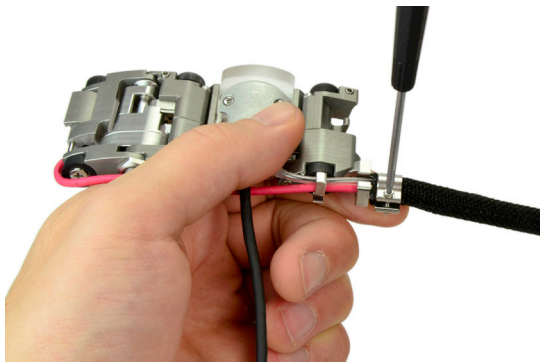
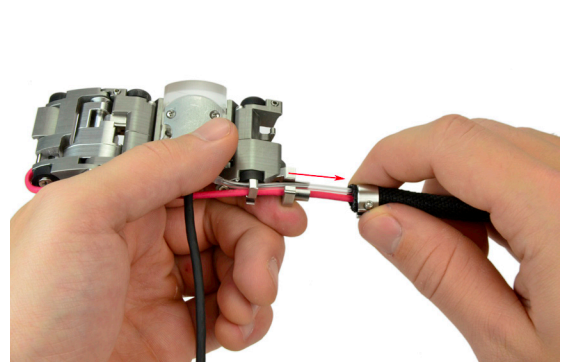

Figure 28
Figure 29
- g. Remove the sleeve clamp screw (Figure 28) and slide the protective sleeving and sleeve clamp from the scanner assembly (Figure 29). Remove the sleeve clamp and protective sleeving from the irrigation tube and encoder cable (encoded side only) if applicable.